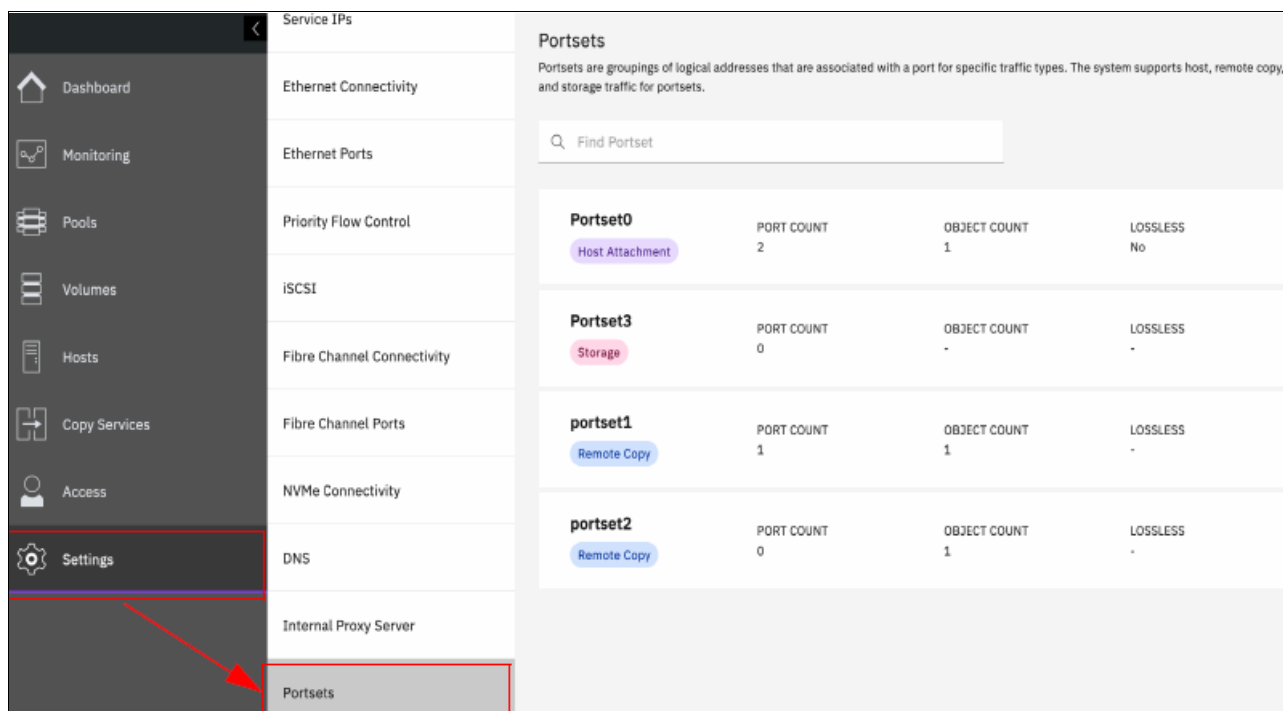

Figure 7-6 Selecting the portset option
1. Select **Settings** → **Network** → **Portsets** (see Figure 7-6).